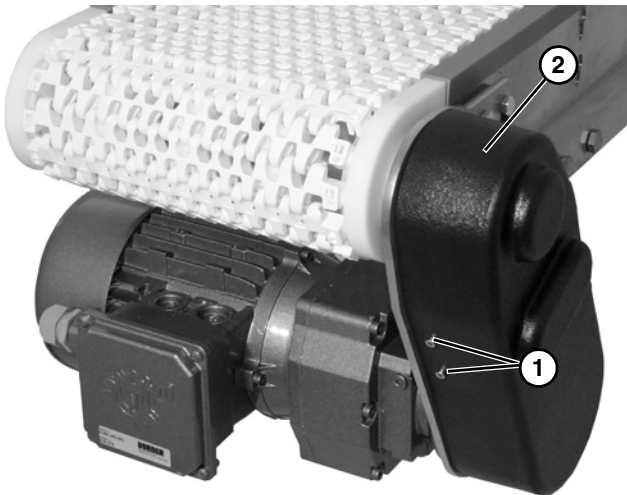

Figure 11
1. Remove four screws (Figure 11, item 1) and remove cover (Figure 11, item 2).
4. Install cover (Figure 11, item 2) with four screws (Figure 11, item 1).